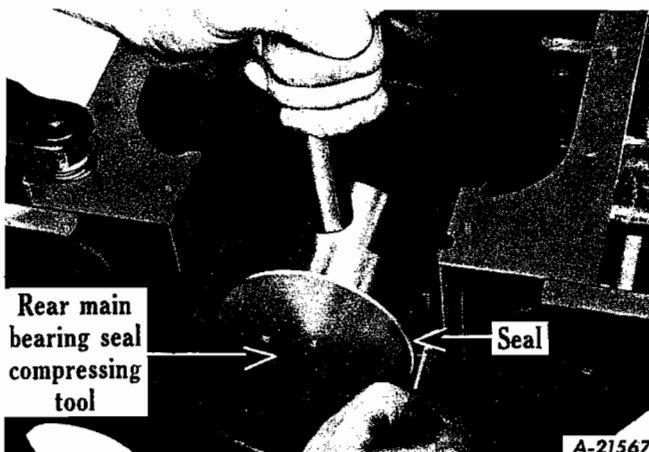

Fig. 68 - Installing upper oil seal in crankcase using SE-1720 Rear Main Bearing Oil seal compressor.
5. Before installing rear main bearing cap (after all bearing clearances have been checked) install upper seal in block. Use special tool to press or roll seal in place (Fig. 68). After seal has been seated in